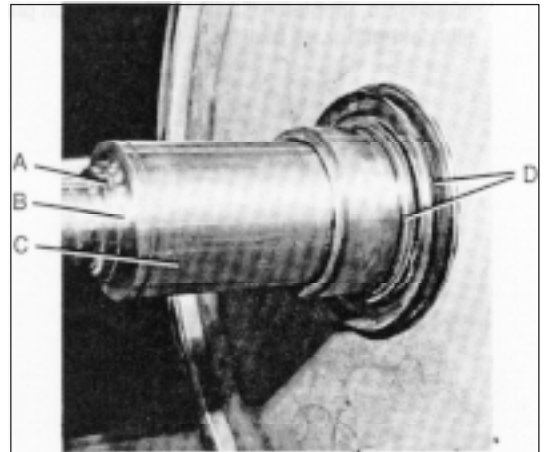

Figure 12. Disassembly of the clamp sleeve
26. Remove the clamp sleeve and the spacer ring, position A in figure 12.
27. Remove the groove ring, position B, and the spacer sleeve, position C in figure 12. Remove the V-rings, position D.